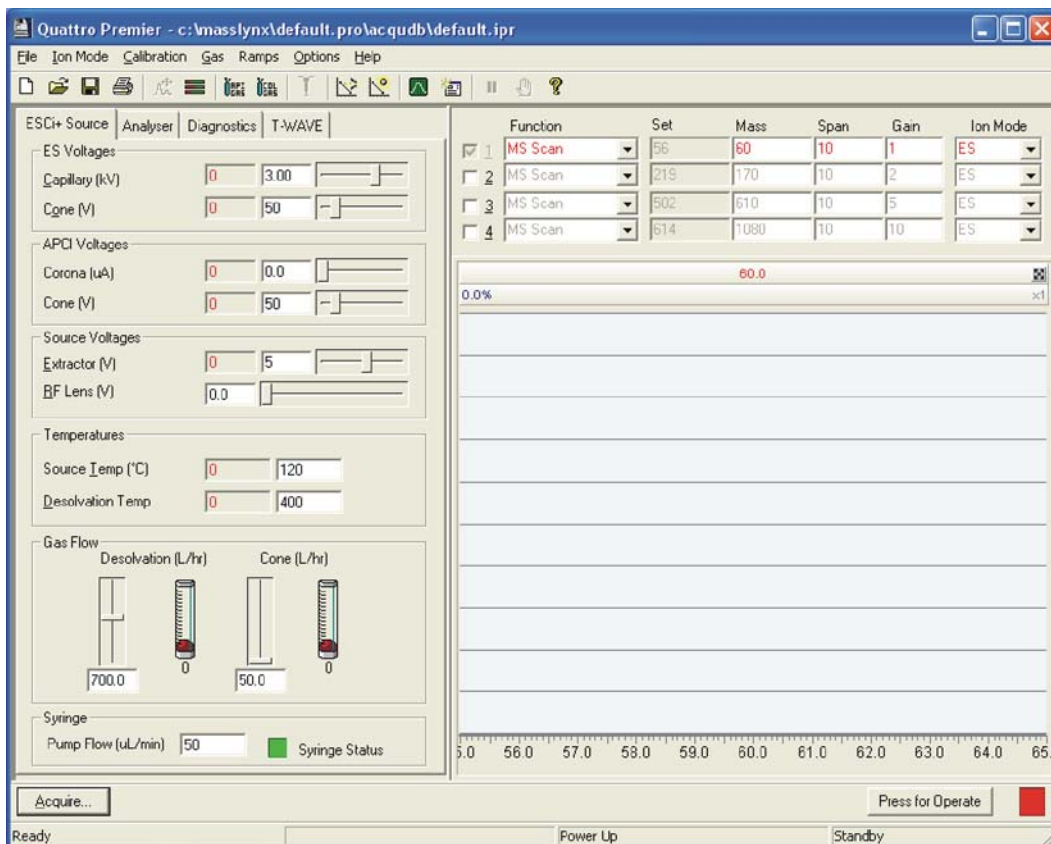

Figure 4-1 Tune Window ESCi Source Page
1. In the MassLynx Tune window, select Options > Multiple ion modes > Dual ES/APCI, to display the ESCi Source page (Figure 4-1).